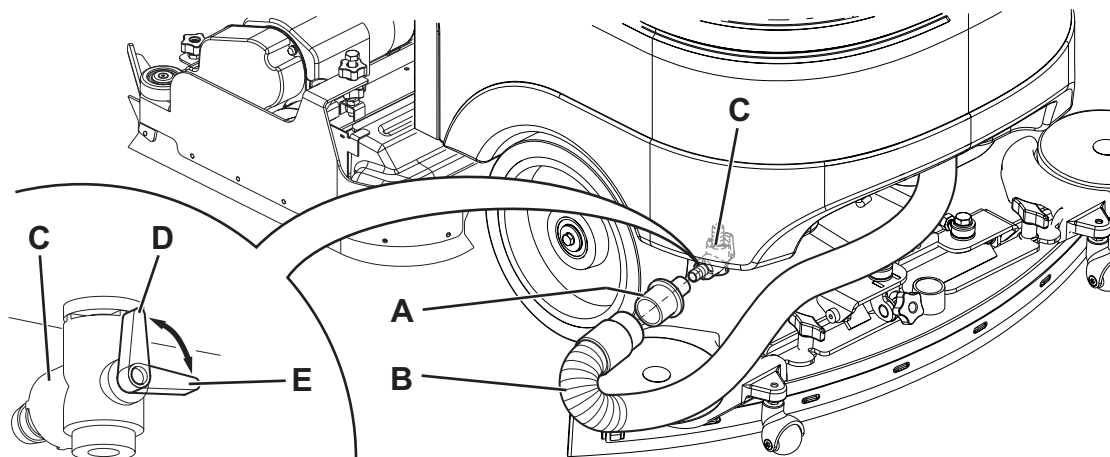

Figure 5
The display (C) shows the detergent concentration level in the solution as shown in the table in Figure 5.
8. Remove the adapter (45) from its housing inside the battery compartment.
9. Install the adapter (A, Fig. 5) on the squeegee vacuum hose (B), then fasten it to the drain tap (C).
10. Turn the ignition key (58) to "I" and turn on the vacuum system with the push-button (63).
11. Open the drain tap (C) to drain the tank (22).